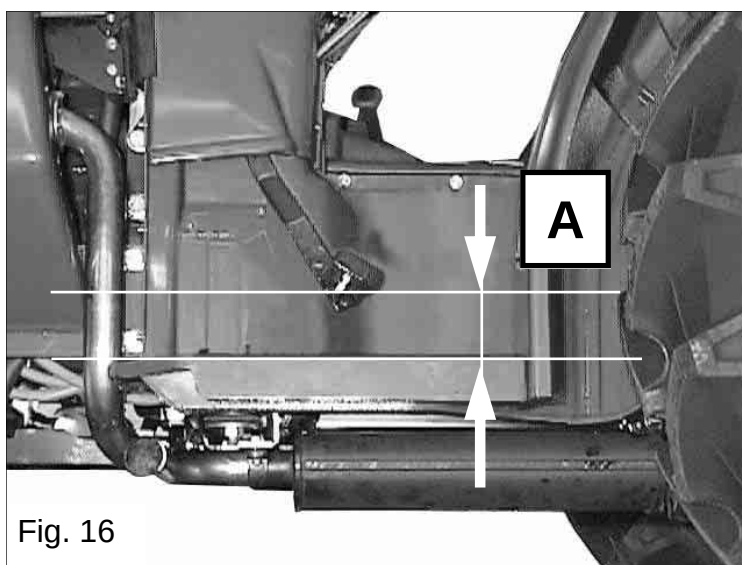

Fig. 16
- when the clutch pedal is in the adjusted condition, the pedal must be about 13 cm from the footboard (pedal height **A**) (see fig. 16);